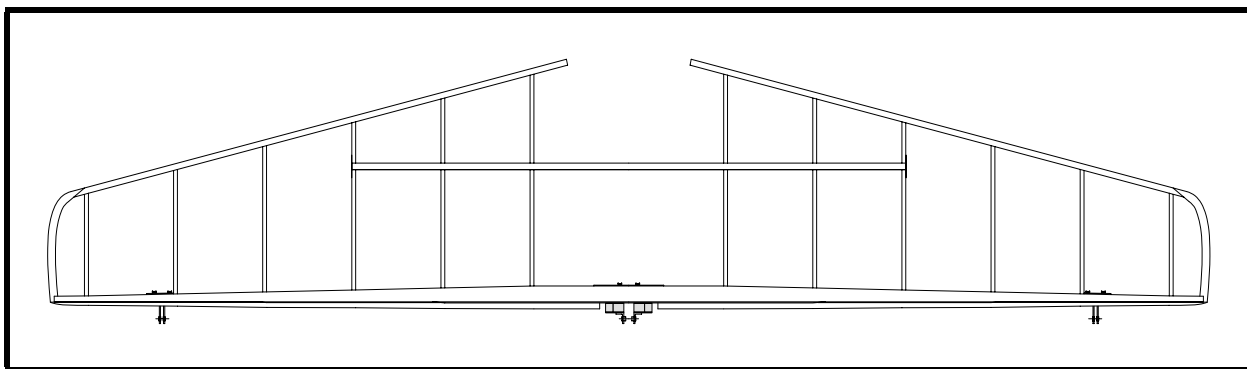

Figure 11
- ☐ Fit and glue the stabilizer tip bows, P/N 403-1, at the ends of the stabilizer to the spar and to the leading edge strip. This piece may be of solid spruce or a lamination. See Figure 11.